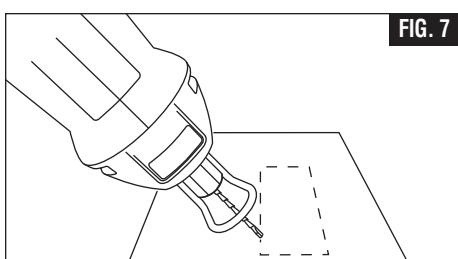

FIG. 7
Step 3: While holding the tool firmly, insert the bit into the material at a 45° angle (Fig. 7).